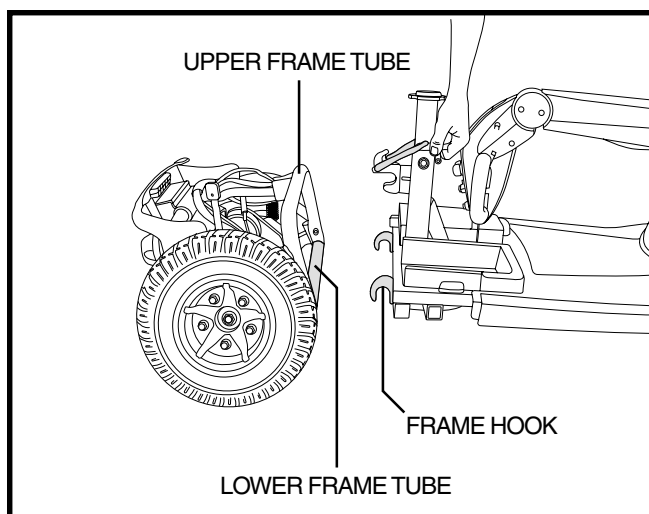

Figure 24. Frame Separation
**NOTE:** Stabilize the rear section with your free hand by holding onto the upper frame tube. See figure 24.
3. Slowly separate the two sections. See figure 24.
1. Position the front and rear sections of your scooter as shown in figure 24.